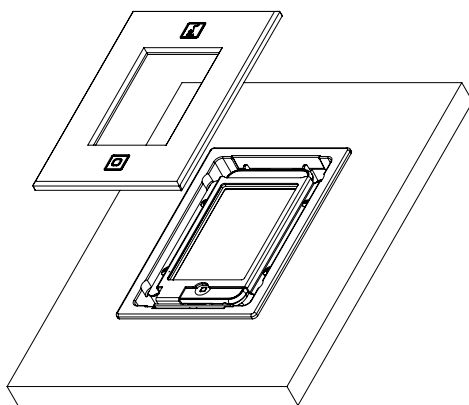

Figure 8: Attaching Cover
14. Attach the magnetic faceplate to the utility box as shown in Figure 8.